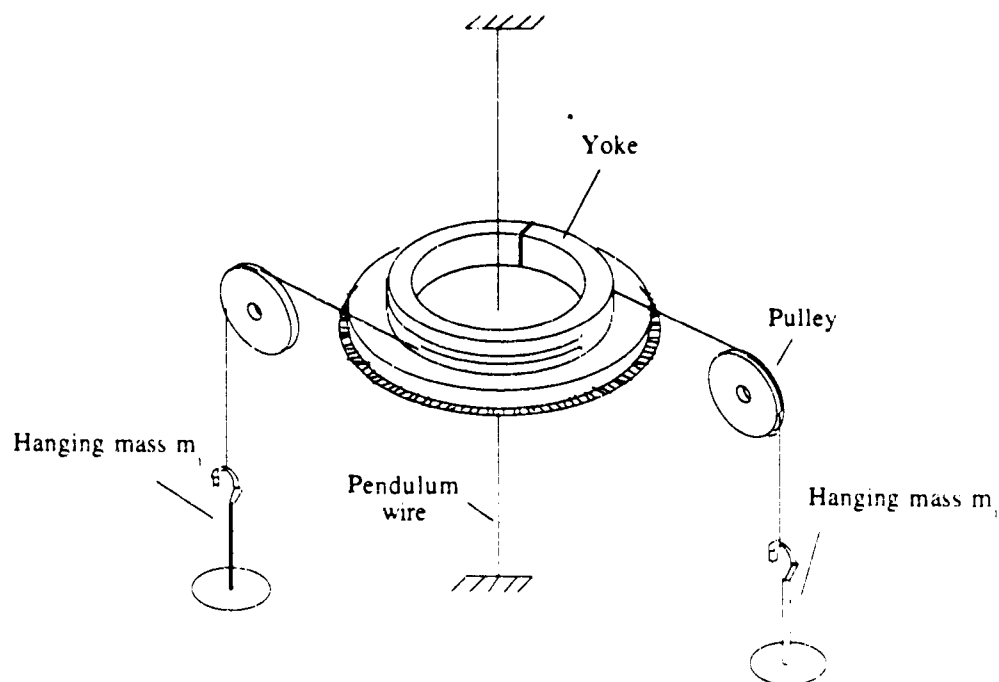

Figure 5: Part V - the setup to measure the torsion constant
1. Mount the yoke with the two strings on it over the disk of your torsion pendulum as shown in Figure 5. Wrap the strings around the yoke and then tangentially over the two pulleys. This *must* be set up correctly, else the resulting torques will not match those you calculate in Table 2.
3. A platform is attached to a vertically mounted stiff wire. Two strings are wrapped around a yoke of radius  $R_{yoke} = 0.0571$  m and are hung over two pulleys as shown in Figure 5. Various masses are hung on the ends of the strings and the stationary angular position of the platform is recorded for each mass as given in Table 1. You will have to carry extra digits and use scientific notation to calculate the final column.